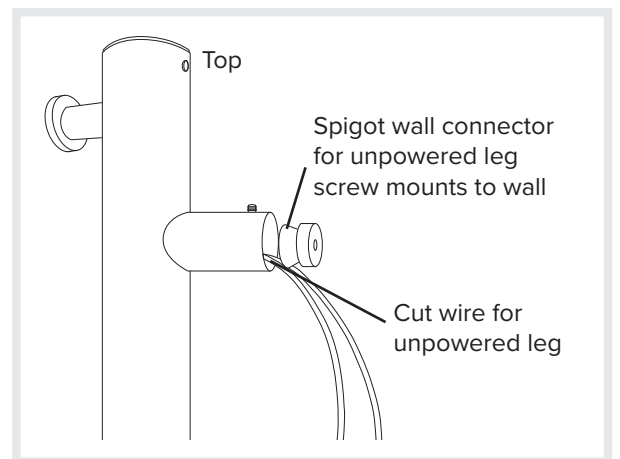

Figure 4b
- Fix insulator in Ø15mm hole using a bonding or silicon glue, at cable end. See *Figure 4b*
- Use a level to determine the correct position for the blocks at the non-cabled end. See *Figure 4b*